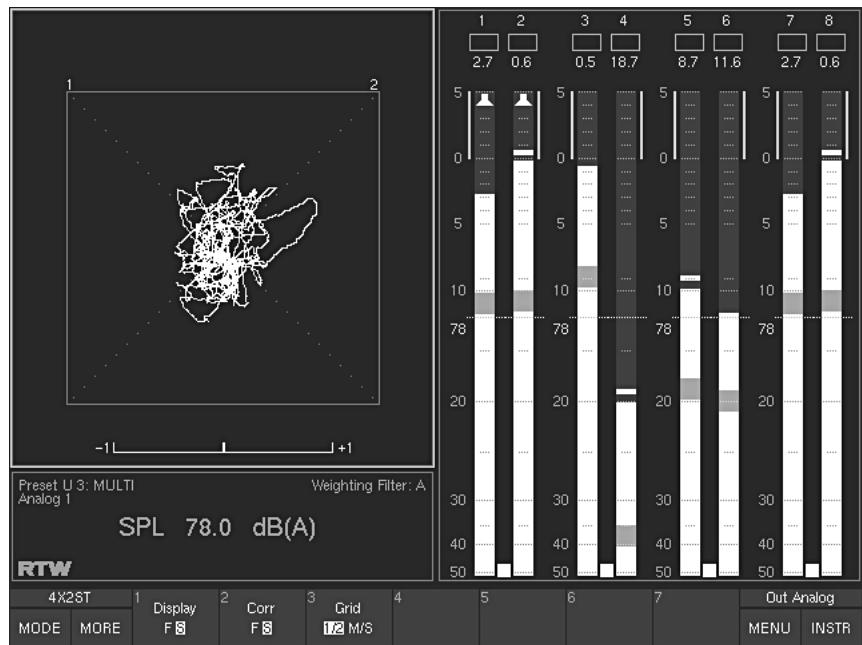

Fig. 5-16: The Audio Vectorscope instrument (VSC) in Multi-Channel mode
In Multi-Channel modes, the VSC input always follows the selected Listening Group provided it's a Stereo channel pair (bargraph pair with spot correlator and green loudspeaker symbols in the PPM). See Fig. 5-16.
(Button/key 1, see Fig. 5-16)
(Button/key 2, see Fig. 5-16)
(Button/key 3, see Fig. 5-16)